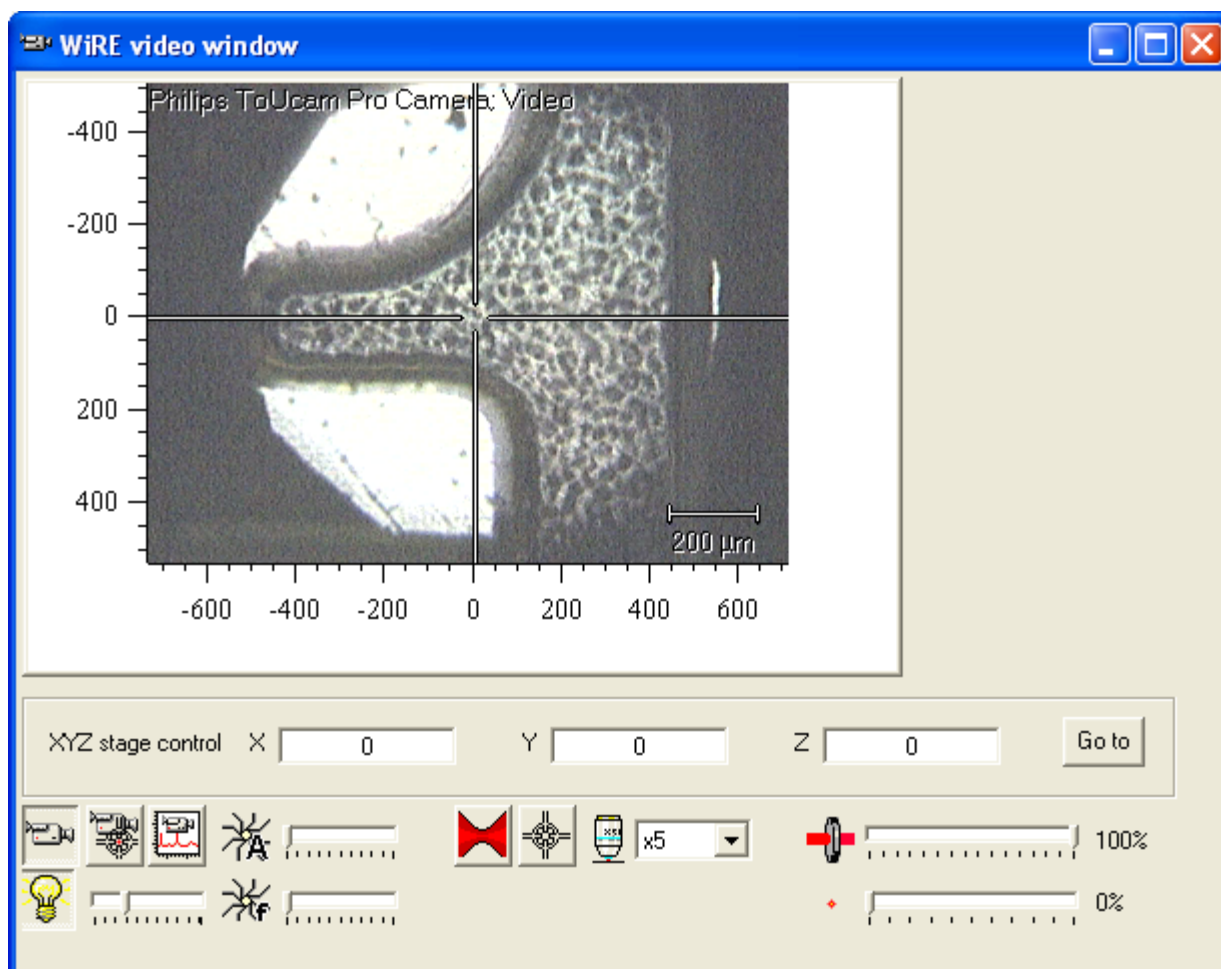

Figure 3 An example registration mark
1. Open the video and focus the crosshair on the desired feature with the objective to be used for data collection (Figure 3)
1. The option *Use safe stage movement* protects the objective against hitting the Micro-plate by moving the stage down (in the z direction) before moving it in x and y. The safe stage movement is only applied when using the *Go to* option on the video viewer (Figure 3), or on the *In well locations* window, for movements over 500 μm . This may be useful when short working distances are being used, but adds additional time to the measurement. At longer working distances, this is not required. If using this setting, check whether the value entered should be positive or negative. This depends upon the z axis set-up, and can be checked by moving the stage up or down with the joystick control, and noting the change in the z value in the video viewer window (Figure 3).